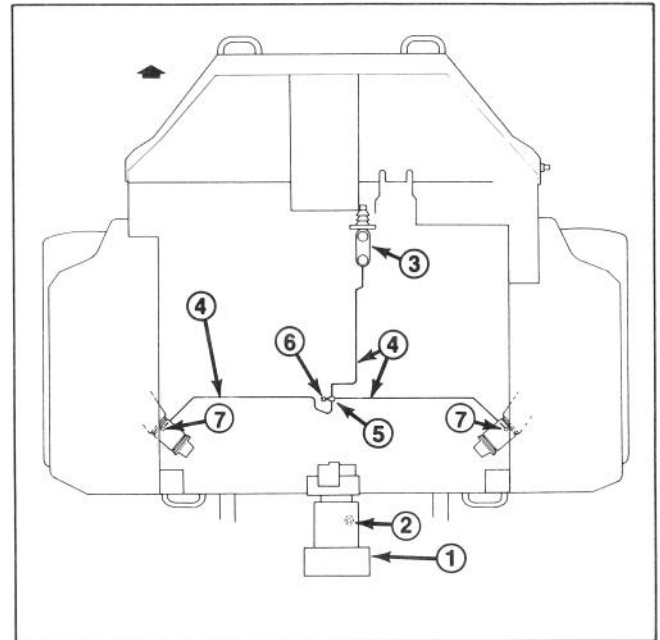

Figure 15
2. Oil the O-ring seal and install the brake switch into the pump (Fig. 15).
1. Place a drain pan under the hydraulic pump assembly. Remove and discard the pump plug from the bottom of the pump (Fig. 15).
2. Place a drain pan under the machine and remove and discard the brake tubing from the master cylinder, both front wheels and the tee fitting connecting the lines together (Fig. 15).
4. Install the brake switch into the tee fitting (Fig. 15).